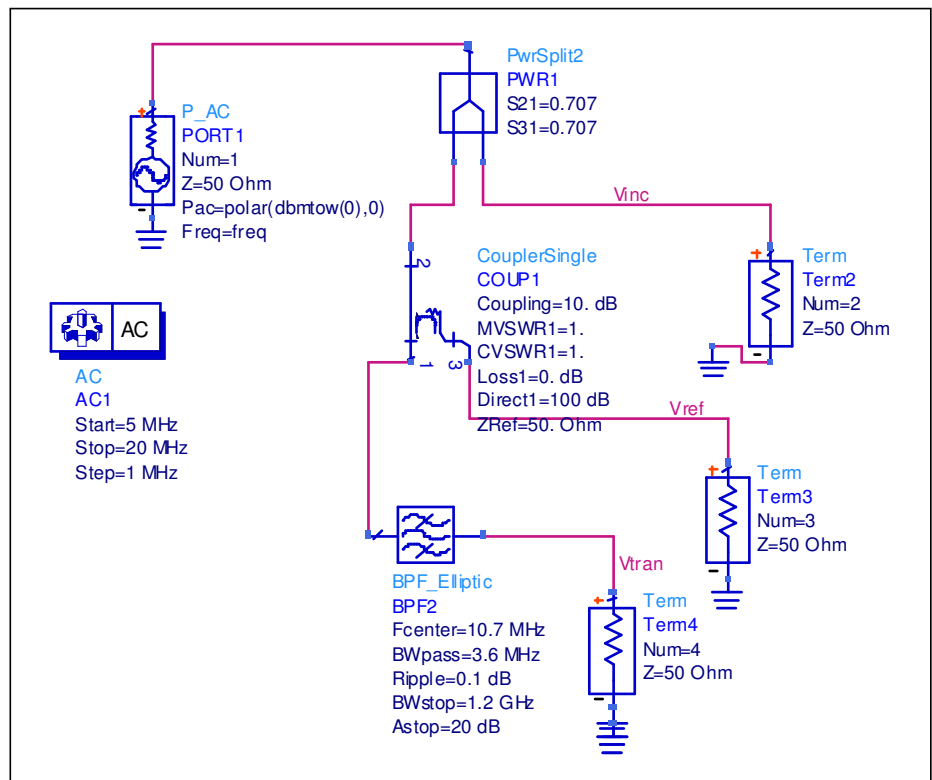

Figure 10 - BPF Simulation.
1. Connect an elliptic BPF to the simulated network analyzer, as indicated in Figure 10.